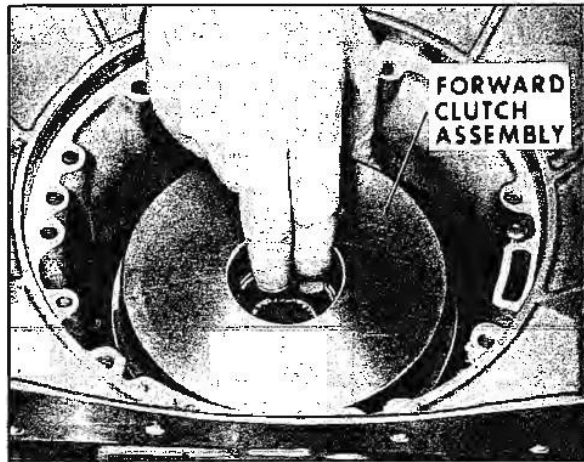

Fig. 7B-126 Installing Forward Clutch Assembly
6. Refer to chart (Fig. 7B-129) and select correct thickness of thrust washer to establish a running clearance of .008"-.051". (If end play is more than .051" with .097" thrust washer installed, check for excessive wear of assembled parts or omitted thrust washers, races or bearings in or behind planet carrier.)